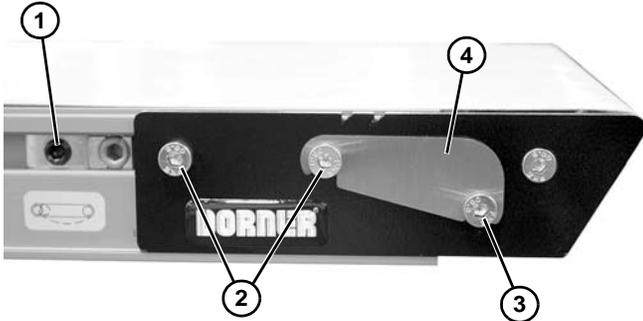
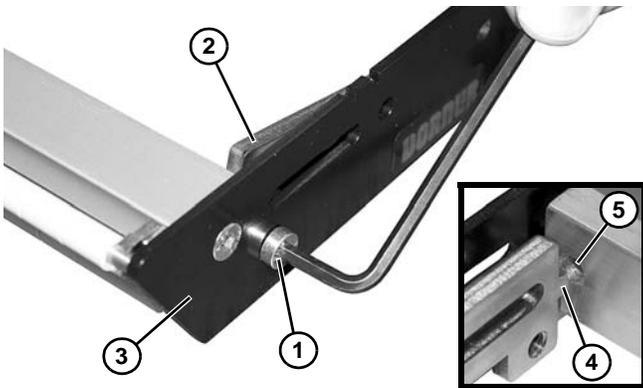

Figure 105
Figure 106
1. On both sides of conveyor, loosen cam fastening screw (**Figure 105, item 1**) (if equipped) and slide cam assemblies toward the center of the conveyor.
2. On both sides of conveyor, loosen two fastening screws (**Figure 105, item 2**) to remove belt tension. Remove belt from end of conveyor.
3. On both sides of conveyor, loosen fastening screw (**Figure 105, item 3**) and remove dust cover (**Figure 105, item 4**) (if equipped).
4. Remove nosebar tail from the conveyor and place on an open work surface. On one side of nosebar tail, remove two fastening screws (**Figure 105, item 2**).
5. Remove lower screw (**Figure 106, item 1**) and remove tail nut bar (**Figure 106, item 2**) and side plate (**Figure 106, item 3**).
During reassembly, make certain that the tail nut bar nipple (**Figure 106, item 4**) is inserted into the support bar hole (**Figure 106, item 5**).
8. Assemble and install head plate in reverse order of removal. Use a hex-key wrench to tighten lower screw (**Figure 106, item 1**) to 30 in-lb (3.4 Nm). Leave two fastening screws (**Figure 105, item 2**) loose for belt tensioning.